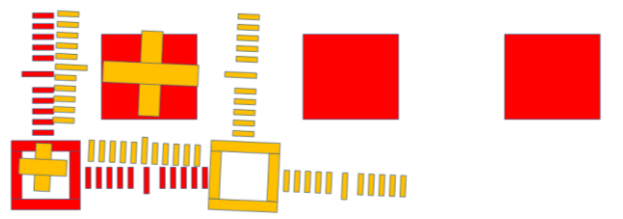

Figure 13 Typical misalignment when initially aligning the center patterns.
- vi) More likely than not the alignment marks will be offset by a θ component (**Figure 13**). **Resist the urge to use θ micrometers to correct this misalignment.**